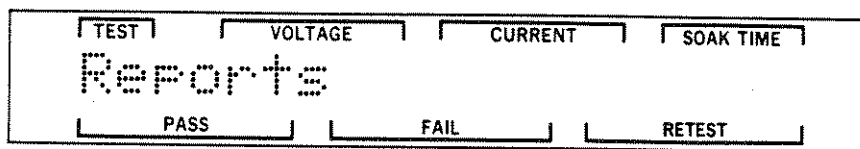

Figure 3-90. Printed Report Entry Screen
STEP 10. Press the DOWN pushbutton to display the Printed Report Entry screen. Figure 3-90 is an illustration of this screen.